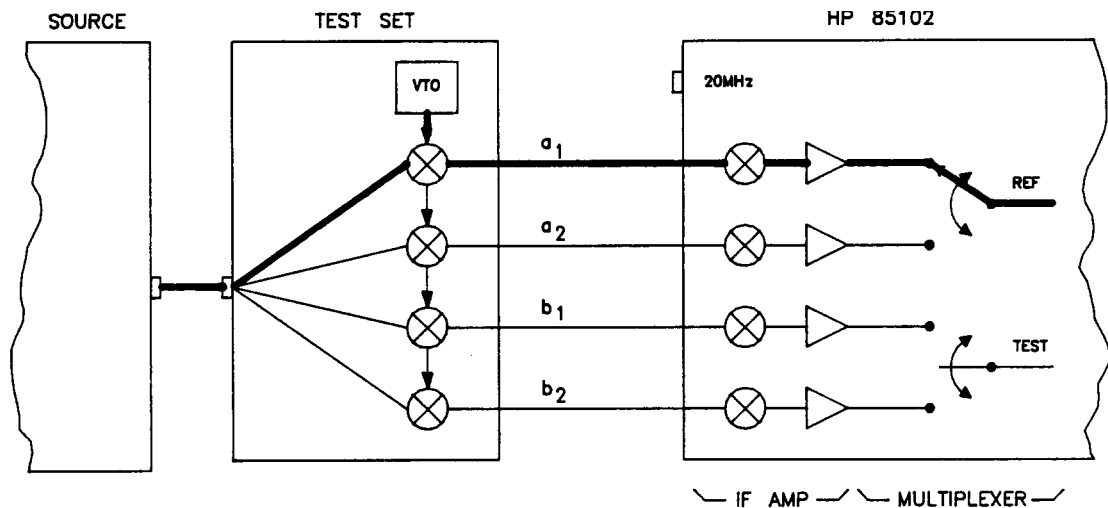
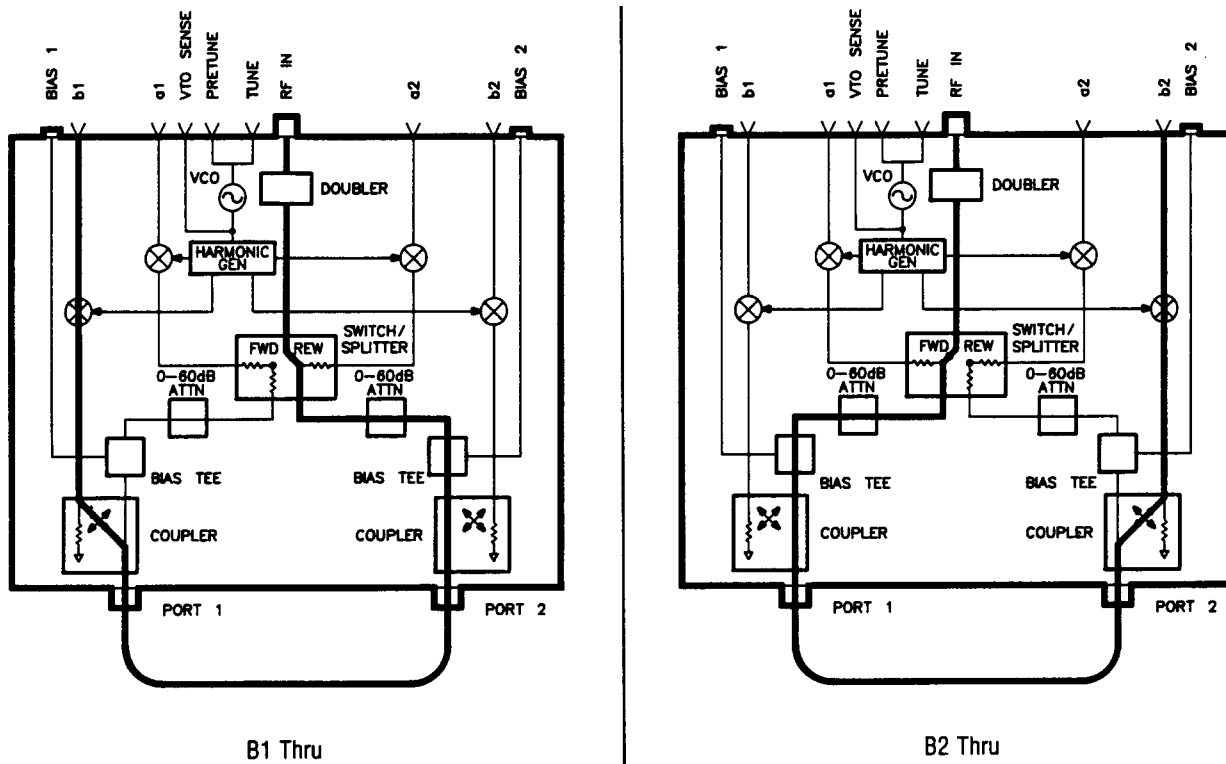

Figure 5-7 Simplified Signal Path of Unratioed Power Test
Figure 5-11 User Signal Paths in Test Sets
Figure 5-7, Figure 5-10, and Figure 5-11 show which assemblies are parts of the signal path of each channel. Realizing that some assemblies are common to two, or all four, channels is a powerful troubleshooting tool. Figure 5-8 and Figure 5-9, following these procedures, show typical traces.
4. Press **[User 1 a1]**, **[User 2 b2]**, **[User 3 a2]**, and **[User 4 b1]** to check the samplers indicated, the RF signal paths are shown in Figure 5-10 and Figure 5-11. Each trace should typically look like the examples in Figure 5-8 and Figure 5-9, within ± 5 dB.
6. Press **{PARAMETER}**, **[MENU]**, **[USER 4 b1]**, **[REDEFINE PARAMETER]**, **[DRIVE]**, **[PORT 2]**, **[PHASELOCK]**, **[a2]**, **[REDEFINE DONE]**, to observe the b1 power level trace through the path indicated by Figure 5-10 and Figure 5-11.
7. Press **{PARAMETER}**, **[MENU]**, **[USER 2 b2]**, **[REDEFINE PARAMETER]**, **[DRIVE]**, **[PORT 1]**, **[PHASELOCK]**, **[a1]**, **[REDEFINE DONE]** to observe the b2 power level trace through the path indicated by Figure 5-10 and Figure 5-11.